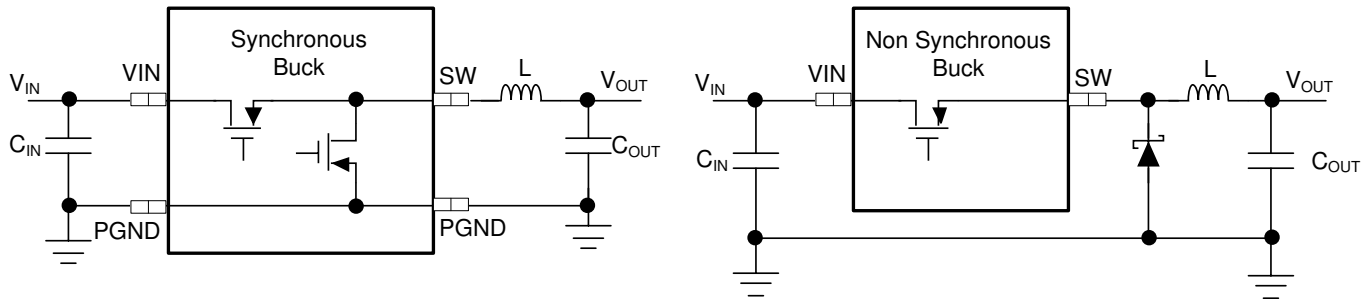

图 8-1. Simplified Synchronous versus Non-synchronous Buck Converters
The LM73605-Q1/6-Q1 synchronous buck with both power MOSFETs integrated in the device. 图 8-1 shows a simplified schematic for synchronous and non-synchronous buck converters. The synchronous buck integrates both high-side (HS) and low-side (LS) power MOSFETs. The non-synchronous buck integrates HS MOSFET and works with a discrete power diode as LS rectifier.